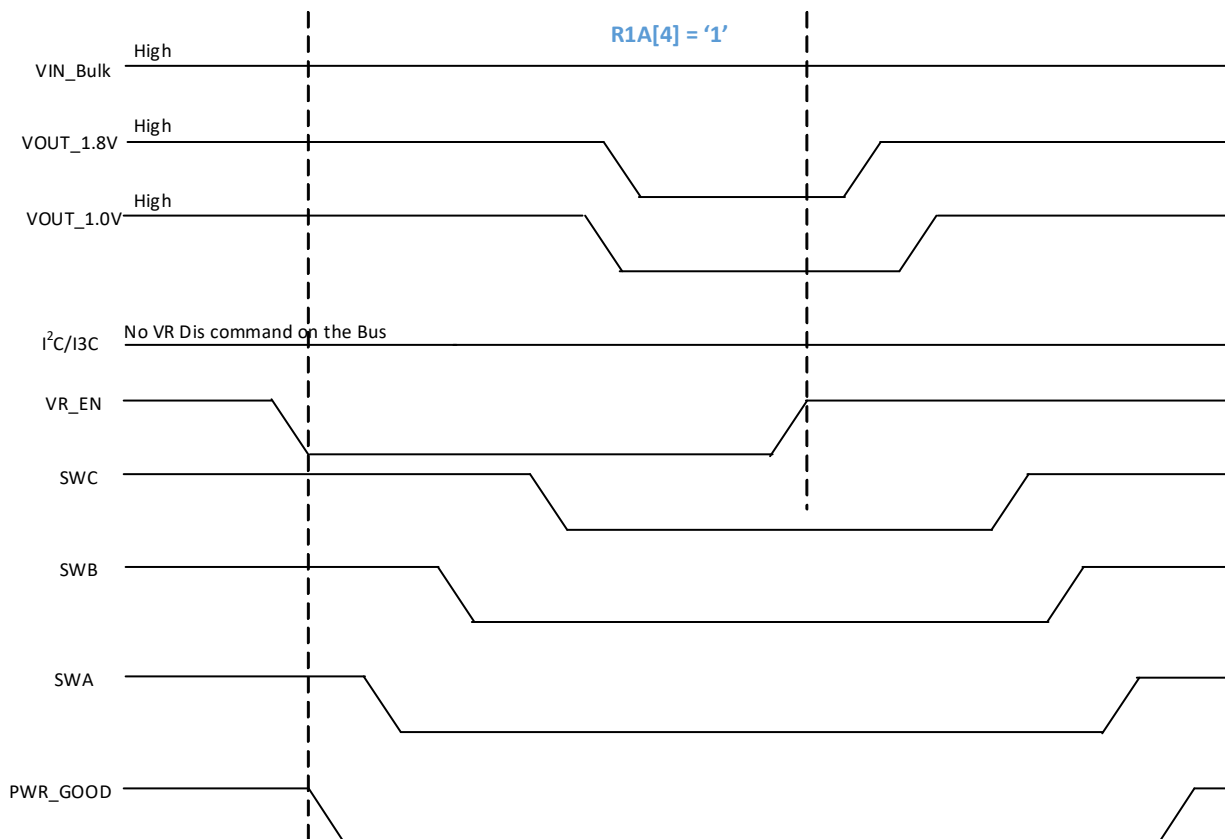

Figure 23 — Power Down with VR\_EN Pin; R1A[4]=1; Program. Mode; PWR\_GOOD Signal
- a. If VR Disable command with a pin (i.e., VR\_EN pin transitions to Low), PMIC asserts PWR\_GOOD signal Low. The host can re-enable the PMIC's output regulators by VR\_EN pin transition to High. The PMIC exits from P1 state and executes power on sequence config 0 to power on sequence config 2 registers and floats PWR\_GOOD signal after tPMIC\_PWR\_GOOD\_OUT timing parameter is satisfied. See Figure 23. The PMIC does not require power cycle.